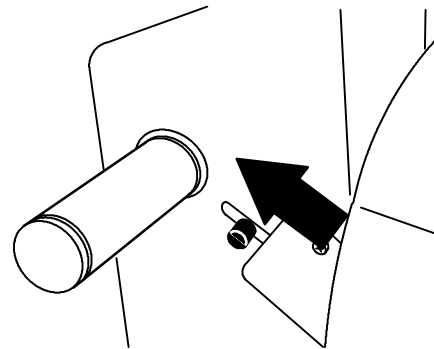

FIG. 21
1. Adjust control console to a comfortable operating height. To adjust height, pull control console trigger, move console up or down, then release trigger (Figure 21).